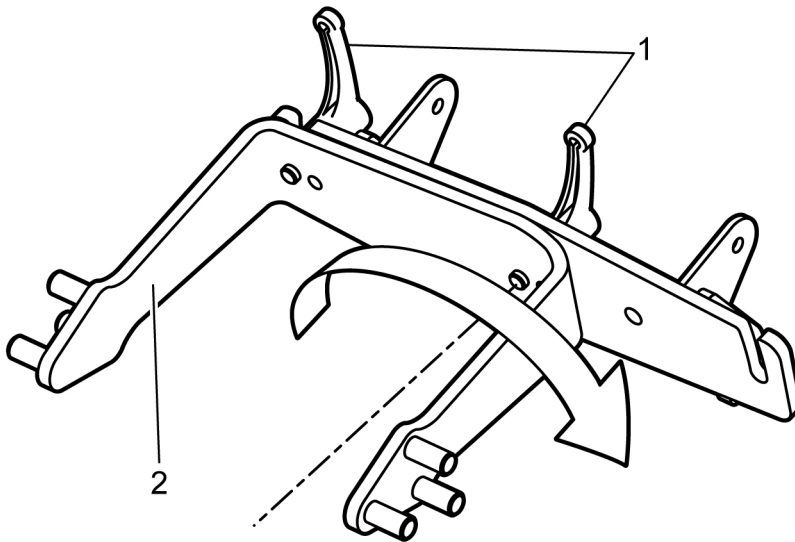

Figure 4-9. Turning the hoop, left - right
- Slightly loosen the locking knob, see position 1 in *Figure 4-9, page 24*.
- Turn the hoop 180°, see position 2 in *Figure 4-9, page 24*. Then firmly lock the locking knob (*Figure 4-10, page 24*).